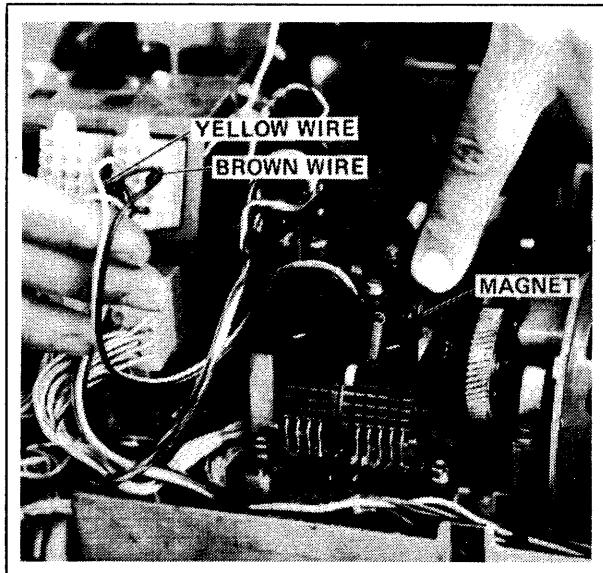

Figure E-7. Distributor Trip Magnet
- b. Disconnect brown wire shown in figure E-7 from plastic connector. Connect this brown wire to terminal L2 on mode switch. (Brown wire will have to be extended.)